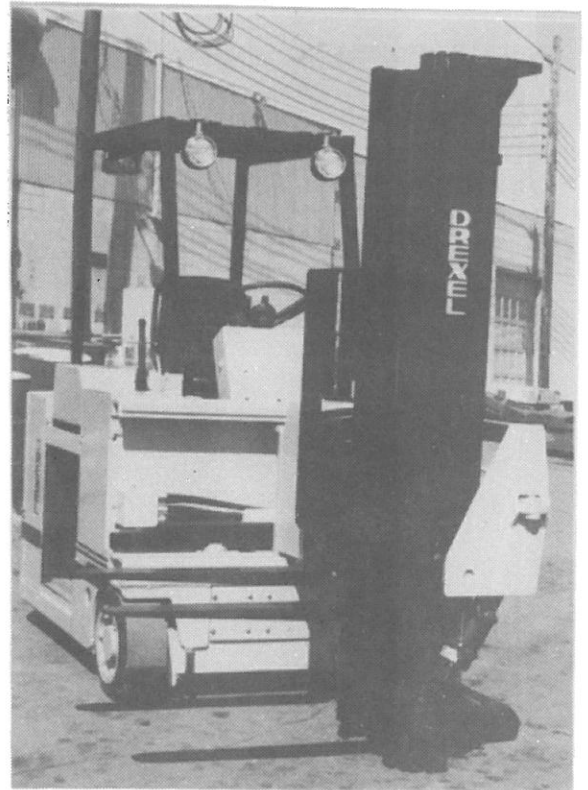

Figure 1-2
2. When the mast shift and pivot features are utilized, it permits the front loading unit to operate in storage aisles as narrow as 56 inches wide. The mast assembly pivot and shift features of the Drexel unit simulates the right angle turning of a conventional front loading truck in a wide storage aisle. (Figure 1-2).